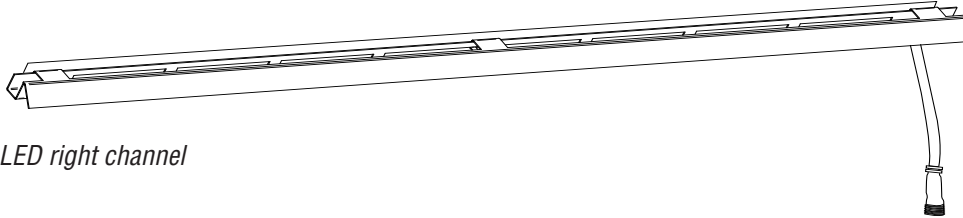
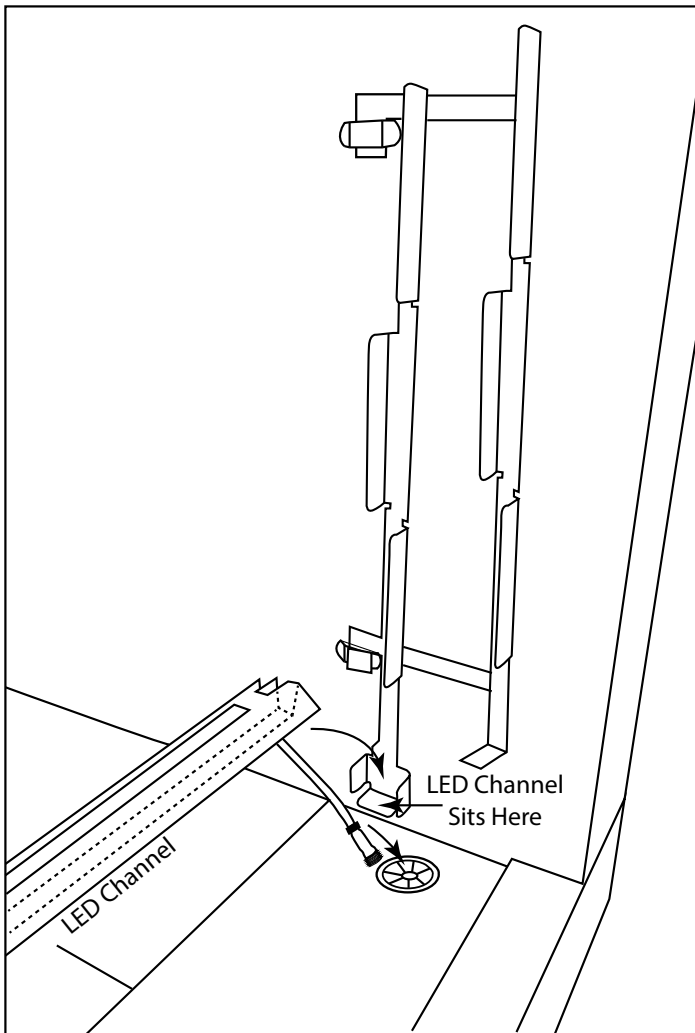

Figure 20 - Shows LED right channel
Figure 21 - Installing LED lights and channel
Step 5: Remove the LED right channel assembly from the carton (The front of the channel has a shield facing the front with the LED wire hanging on the right side). See Figure 20 and Figure 21 for details. **NOTE: If you are installing into a see-through fireplace you will install both right and left channels assemblies.**
Step 6: Carefully push the LED channel connector through the wire grommet. As you push it through the grommet sit the LED channel into the bottom of the glass clip. Ensure the other end of the channel is also sitting inside the other retainer clip. See Figures 21 & 22 as a reference. Note: If you are installing into a see-through fireplace, install the other LED light strip and channel the same direction to ensure wires will connect.